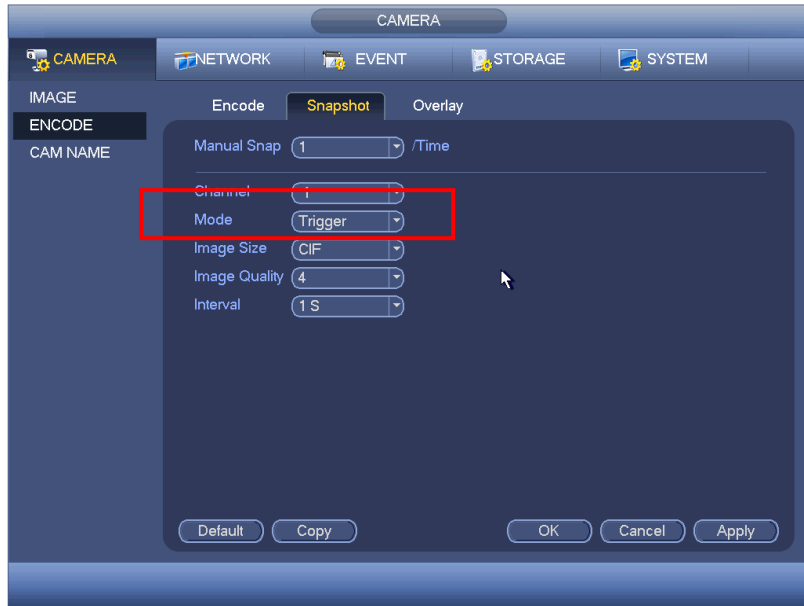

Figure 4-98
- In main menu, from Setting->Camera->Encode->Snapshot interface, here you can input snapshot mode as trigger, size, quality and frequency. See Figure 4-98.